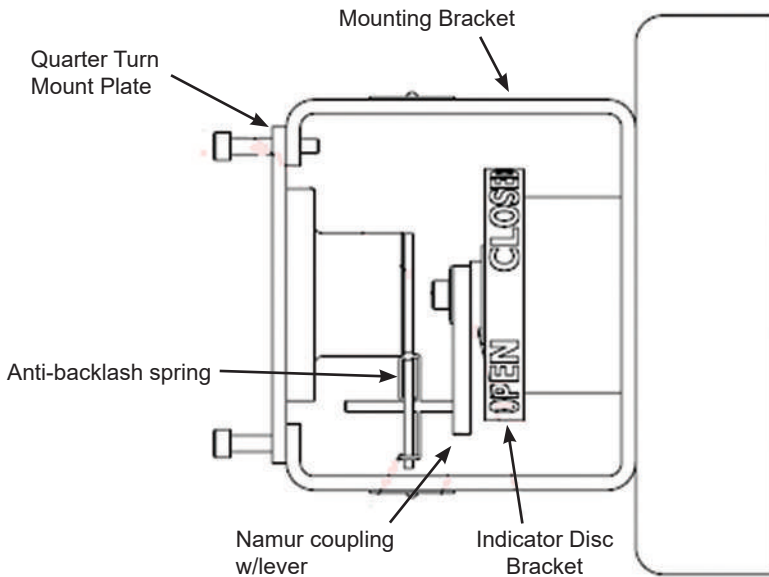

Figure 5 - Namur 50mm Mounting Kit
- 4 mm hex key Refer to Figure 5 for this procedure.